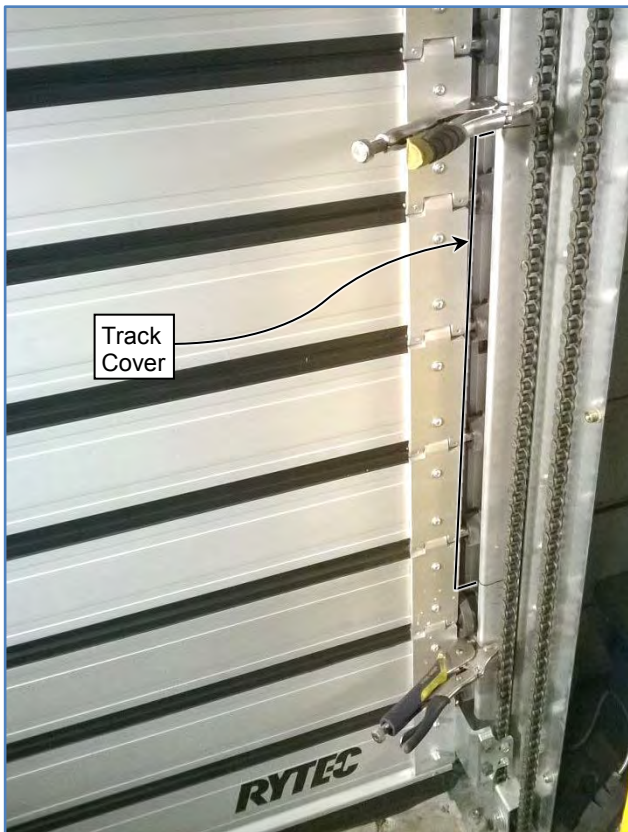

Figure 24
6. Position clamps along both edges of the door above and below the Lower Track Assembly track cover to be removed to prevent unexpected door movement as shown. (See Figure 24)